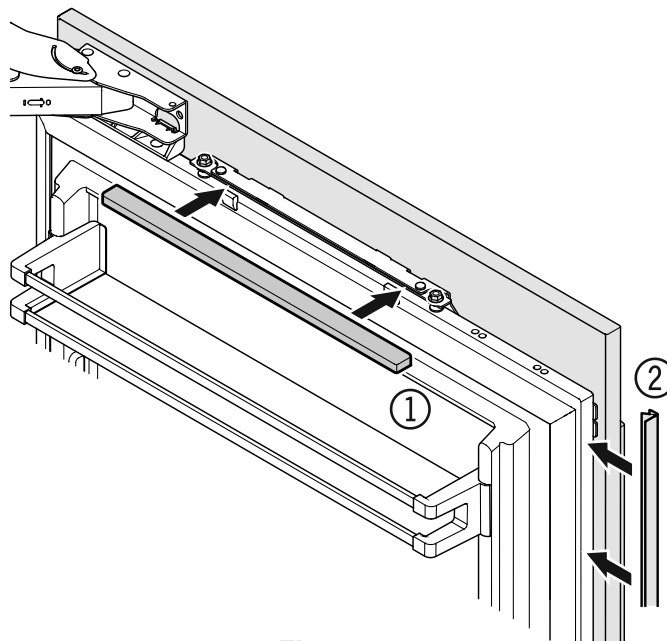

Figure 42
11. Click cover (1) into place. Insert the cover strip provided (2) between refrigerator door and panel (**Figure 42**).